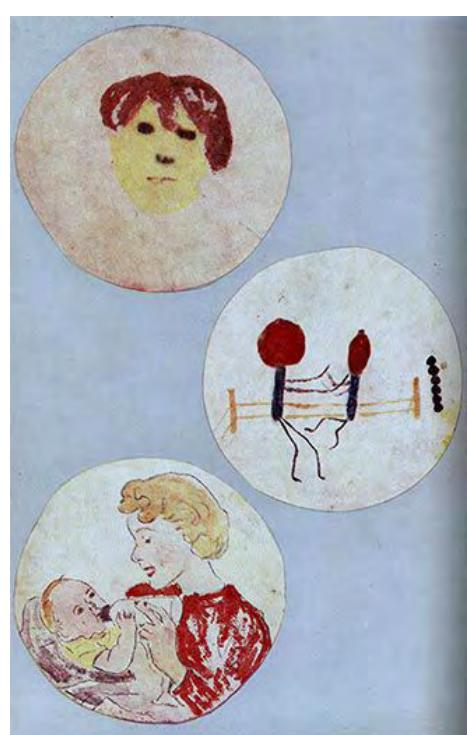

Figure 1b:
- Alexander Fleming is famous for his accidental discovery of penicillin in 1928. After returning from holiday, he found that a fungal contamination in his Petri plates had killed much of the disease-causing bacteria *staphylococci*. He is less famous for his bacterial paintings (Figure 1b) which he also created on Petri plates and at one point presented as a small exhibit to the queen of England! It's speculated that his search for colorful microorganisms to use as "paints" may have been the original source of the *Penicillium* fungus.